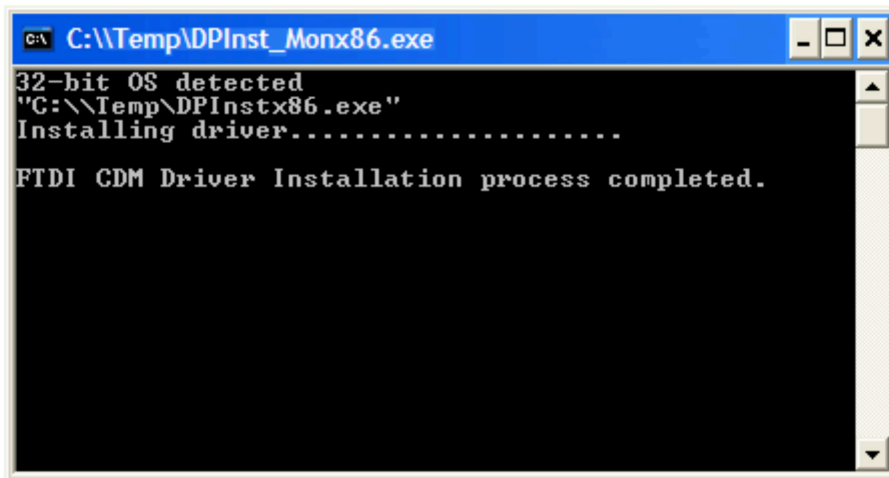

Figure 1
- A command window will appear (see Figure 1 below). A row of dots indicates progress, and a success message will appear in the command window. It will close after a few seconds.